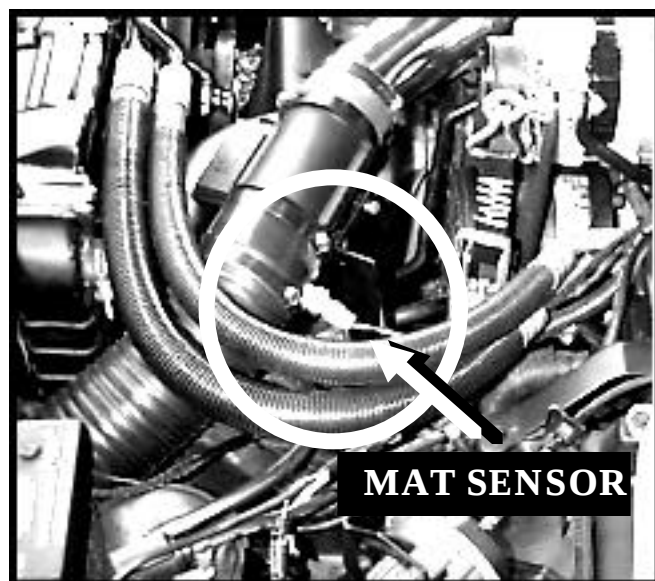

Figure 2- MAT Sensor Location
2. Plug the 2 wire BST-001 MAT sensor connector (**see Figure 2**) into the ECM connector. The MAT sensor will not be connected any more.